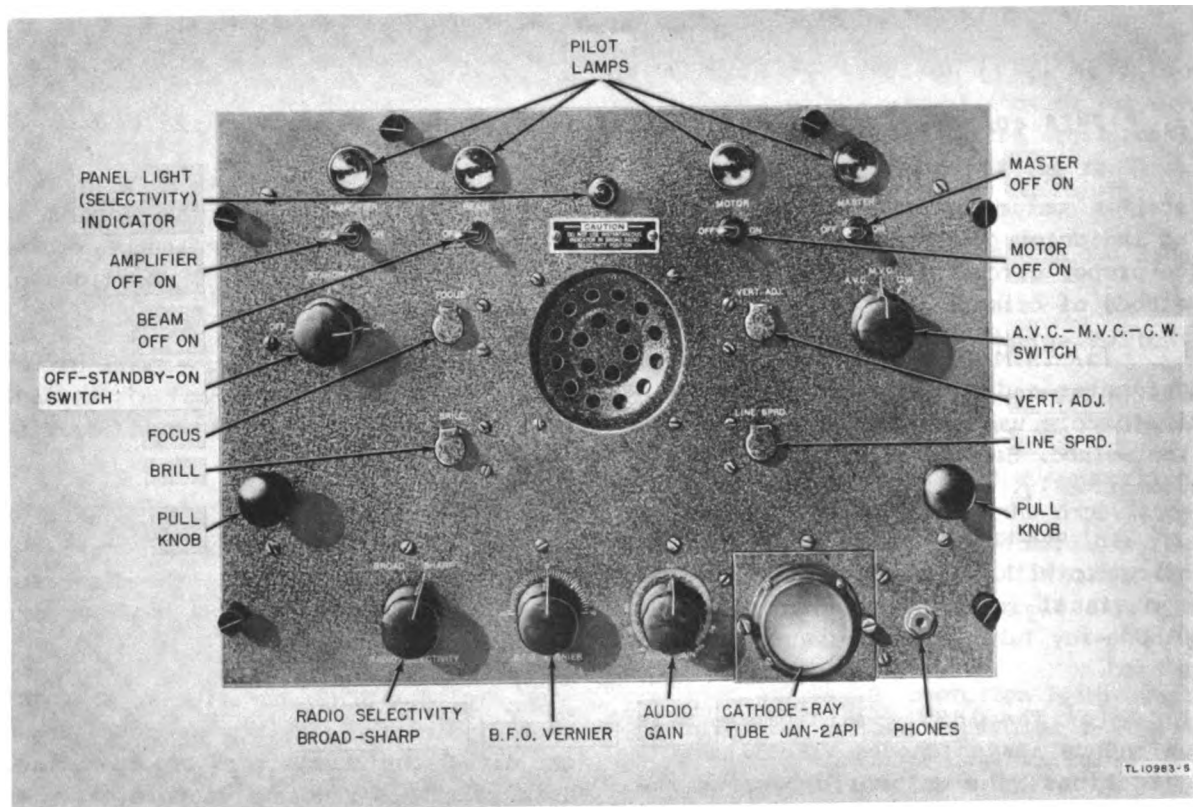

Figure 41. Power indicator of Radio Receiver Assembly R-128/CRD-3.
(6) Manual operation of the GONIOMETER INSIDE dial permits reading of azimuth when the null and matched-line methods are used.
(7) GONI. GAIN (R117) is a slotted screw adjustment which allows varying of the amplification of the directional channel amplifier. Presetting of this control balances the gain of the goniometer channel for the various modes of operation thus permitting switching from matched-line indication to automatic azimuth indication without readjustment of the R.F. GAIN control.
(8) DIM control (R139) dims or extinguishes the receiver dial lamps.
(9) Balanced modulator adjustment (R127) adjusts the screen voltage supply to the balanced modulator tubes (V108 and V109) to balance their amplification. It is located on the top right-hand side of the chassis approximately 6 inches from the front panel.
b. Power Indicator Section (fig. 41). The following controls except those of subparagraphs (17) and (18) are located on the front panel of the power indicator of the receiver assembly.
(1) OFF-STANDBY-ON switch (S205) controls the power input to the receiver as follows: